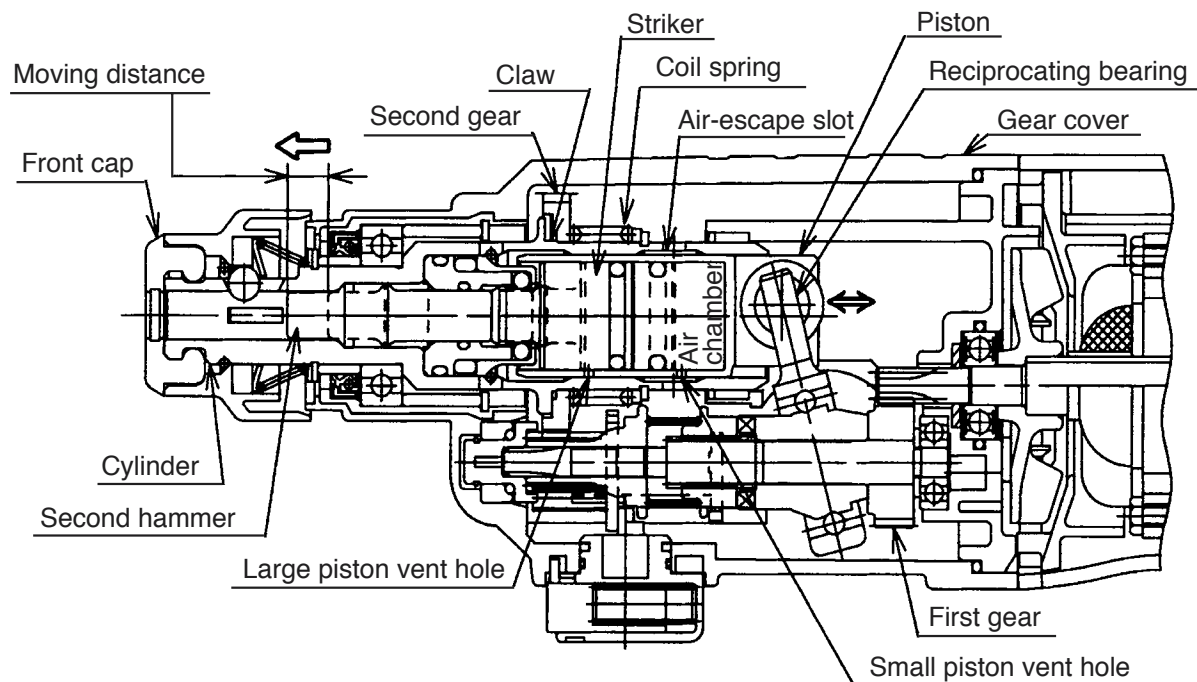

Fig. 4
The idle hammering prevention mechanism in the Model DH 24PC2 is different from that of conventional rotary hammers. When the drill bit is lifted from the work surface on completion of drilling, the second hammer moves to the position indicated by the continuous lines in Fig. 4 and the protruding (lip) portion at the tip of the striker is gripped by O-ring (C) mounted between the hammer holder and the damper holder. In this state, should the piston continue to move so that the small piston vent hole is blocked by the inner wall of the cylinder, the air in the air chamber will pass through the large piston vent hole and be released through the air-escape slot and large cylinder vent hole provided on the inner wall of the cylinder. Accordingly, there is no change in the air pressure within the air chamber, and movement of the striker (idle hammering operation) is prevented. The gripping force of O-ring (C) on the striker is so small in comparison with the conventional mouth system that practically no pressing force at all is required to restart the hammering operation.